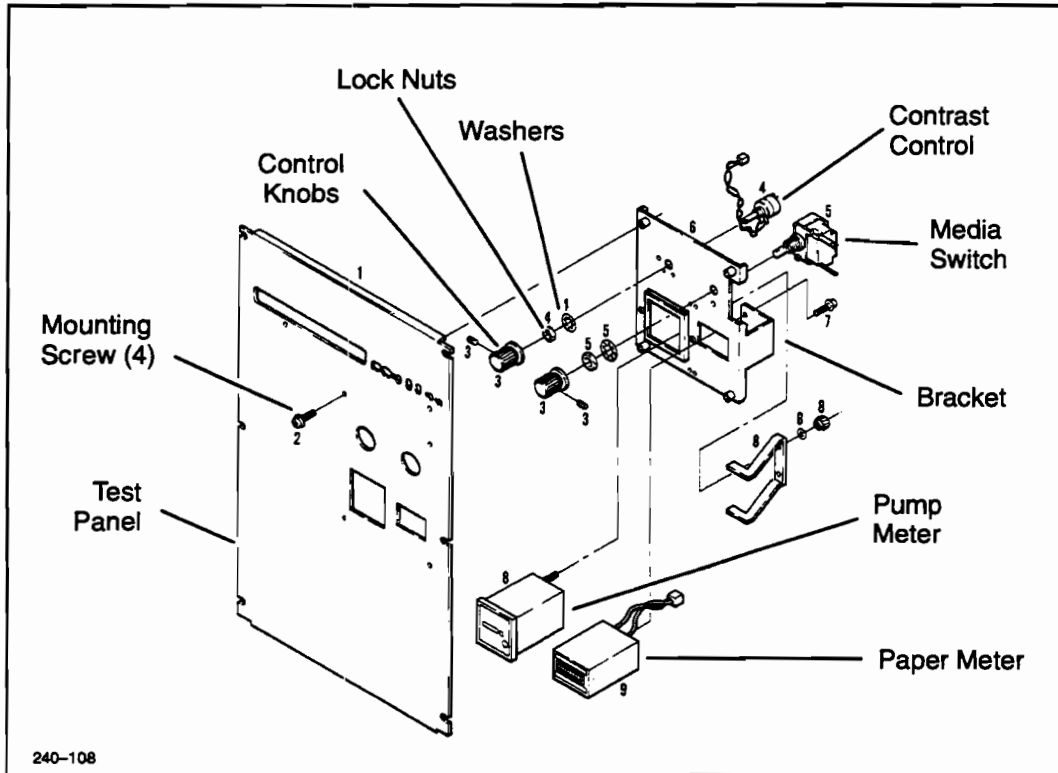

Figure 6-43. Test Panel Assembly
5. Using a #1 Phillips screwdriver, remove the four meter bracket mounting screws. See Figure 6-43.
8. Using a 14 mm open-end wrench, remove the control locking nut and washer. See Figure 6-43.
7. Using a #1 Phillips screwdriver, remove the four meter bracket mounting screws. See Figure 6-43.